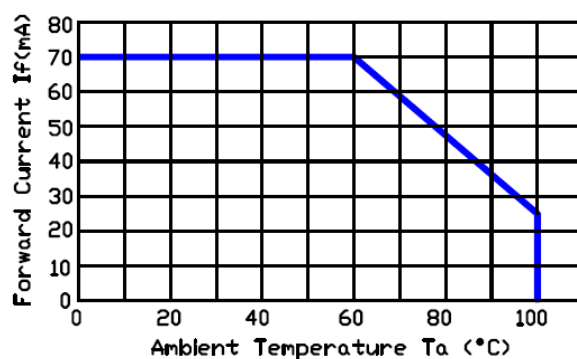

Fig.2 Forward Current vs. Ambient Temperature
3. Derating linear as shown in Fig. 2